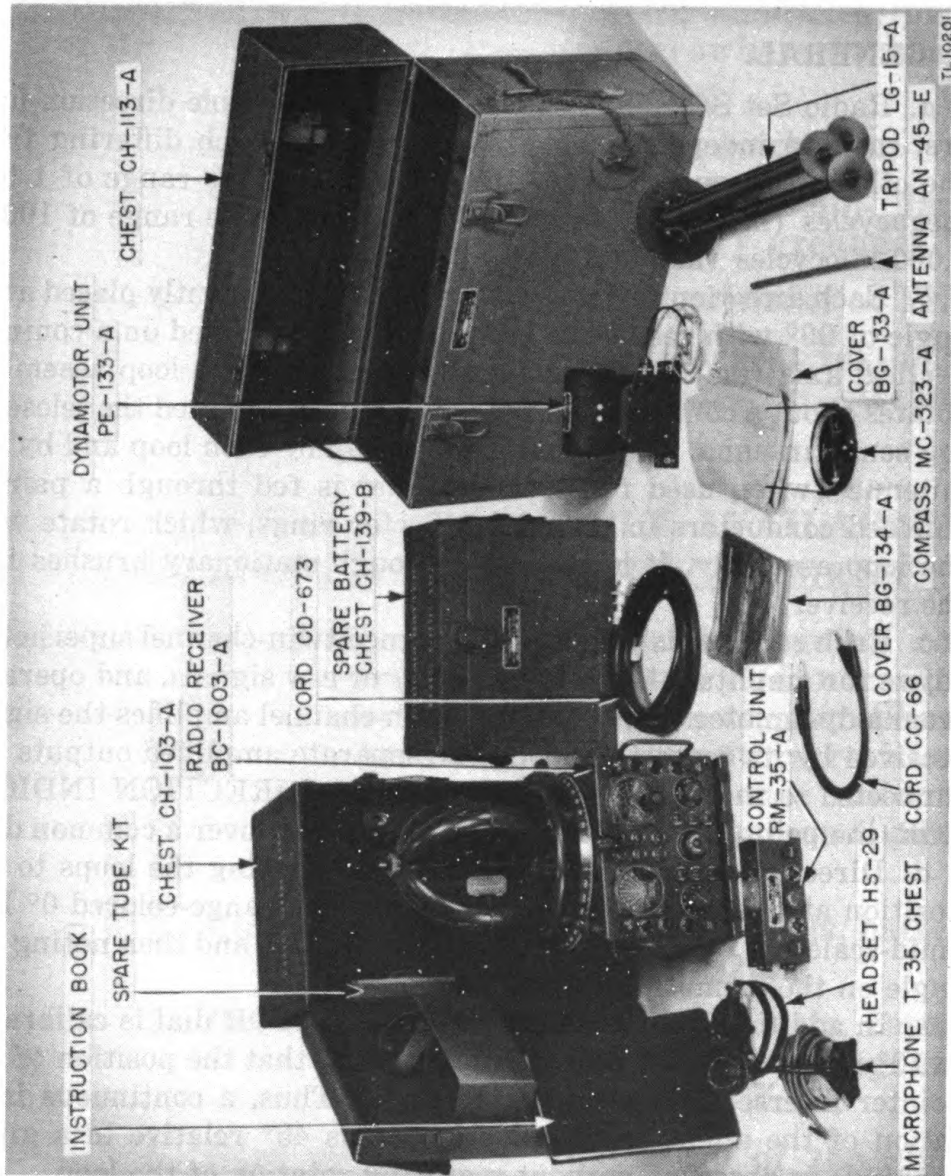

Figure 1. Radio Set SCR-503-A, main components, less Radio Receiver BC-973-A
3. INDIVIDUAL COMPONENTS (fig. 1).